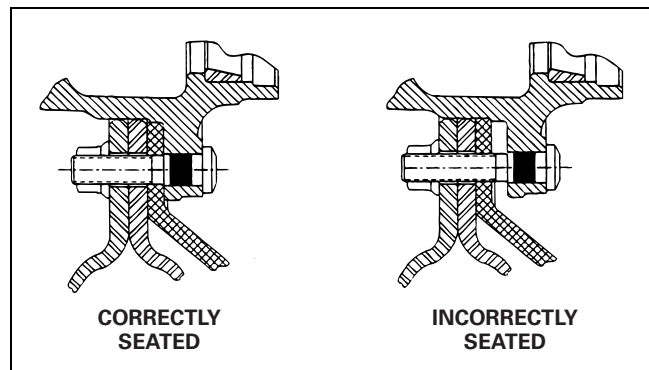

Figure 4.7
3. You must lift an outboard-mounted brake drum into place on the wheel pilot to correctly seat the drum. Position the hub so that one of the intermittent pilots is located at the TOP position. Just tightening will not force the drum onto the pilot. Ensure that the drum is seated correctly and the flange has not dropped onto the pilot. Figure 4.7.